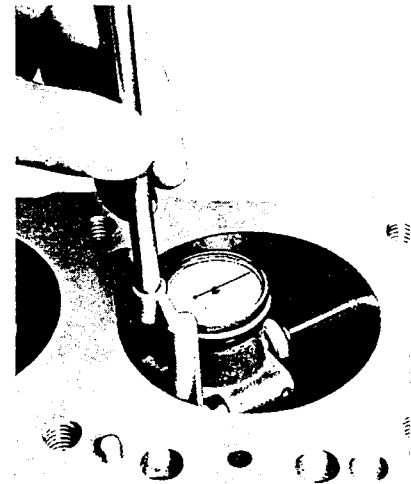

Figure 8-1-56
2. Check the cylinder walls for taper, out-of-round or excessive ridge at top of ring travel. This should be done with a dial indicator (use Tool J8087, see Figure 8-1-56). Set the gage so that the thrust pin must be forced in about 1/4" to enter gage in cylinder bore. Center gage in cylinder and turn dial to "0". Carefully work gage up and down cylinder to determine taper and turn it to different points around cylinder wall to determine the out-of-round condition. If cylinders were found to have more than 0.002" out-of-round, boring will be necessary.